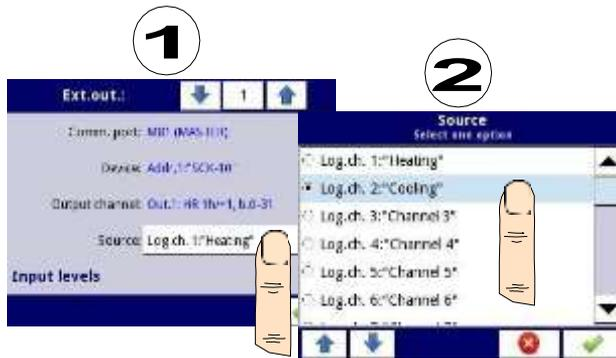

Fig. 7.101. Sample selection of **Source** for External output
- **Source** – this parameter allows to choose a source for an external output from the logical channel list (see Fig. 7.101),